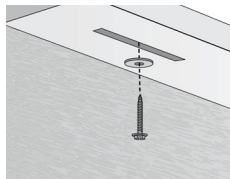

Figure 3: Through Head Rail
2. Holding the shade in place in its installation position, use the mounting bracket installation screws to screw directly through the shade head rail into the mounting surface **[Figure 3]**.